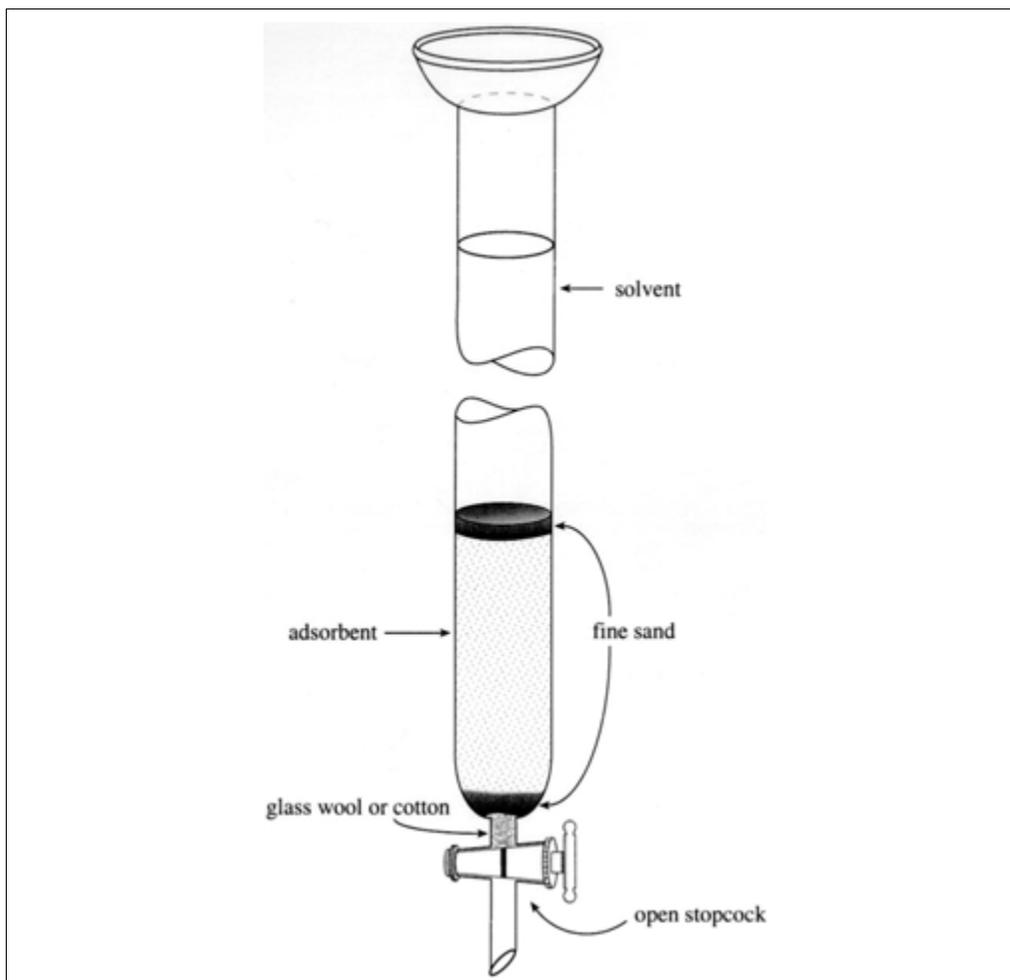

Figure A.3E.2 Packing a chromatography column.
- 4b. *Flash chromatography:* Attach the solvent reservoir to the top of the column using the appropriate clamp. Attach a compatible flow controller to the top of the solvent reservoir (Fig. A.3E.1).
Figure A.3E.1 Professional flash chromatography columns. **(A)** Conventional. **(B)** Screw-thread. Reprinted from Mayo et al. (1994) with permission from John Wiley & Sons.
Before carrying out column chromatography, the glass column must be packed with the appropriate adsorbent and a suitable solvent (Fig. A.3E.2). There are two methods for packing a column: wet packing and dry packing. Wet packing can be messy, but this technique works every time and is preferred for packing silica gel columns. Dry packing often results in the formation of air bubbles that can be difficult to remove. When this happens, the column must be repacked; however, when alumina is used as an adsorbent, the preferred method is dry packing, as wet packing with alumina requires making a slurry that is difficult to pour.